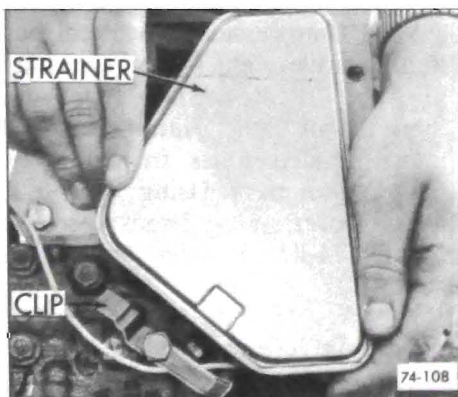

Figure 74-103
1. Remove oil strainer assembly. See Figure 74-103.